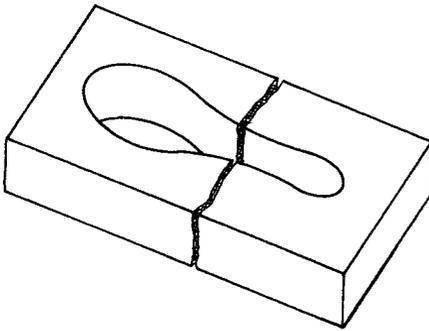

Fig. 6.3
**Problem 2** This spoon die has been broken into two pieces; see Fig. 6.3.